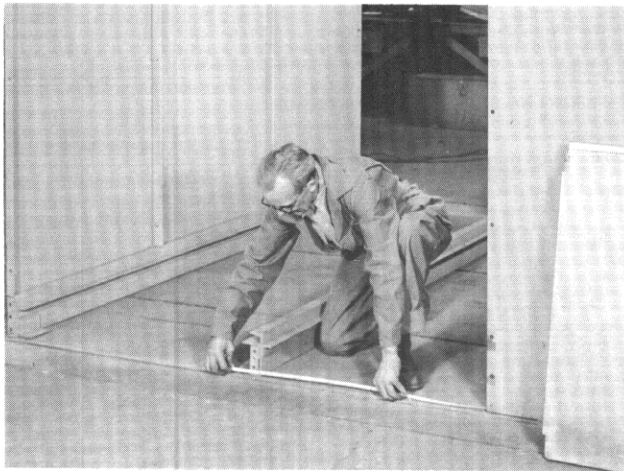

Fig. 5. Locate Aisle Center Foundation Channel
7. The center foundation channel supporting the aisle floor plates is placed in position as indicated in Fig. 5 with the flanges of this channel turned toward the aisle front panels.